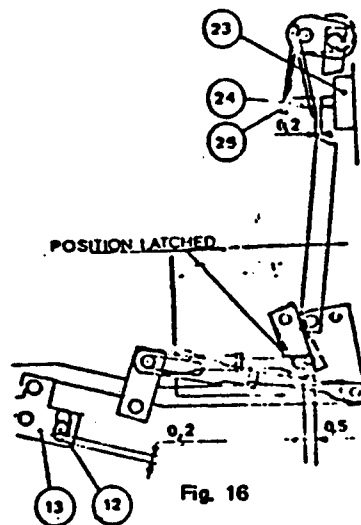

Fig. 16
- b) Inspection. With the breaker in the open position, press the trip button (23) Fig. 16 and check travel of release bar. Distance between maximum position of reset and latch should be 0.5 mm (0.020 inch). Check play between lever (24) and adjustment screw (24) for a minimum of 0.2 mm (0.008 inch). Press the push-button fully to check for a minimum clearance of 0.2 mm (0.008 inch) between lug (12) of the latch (13) and the bottom of the slot.